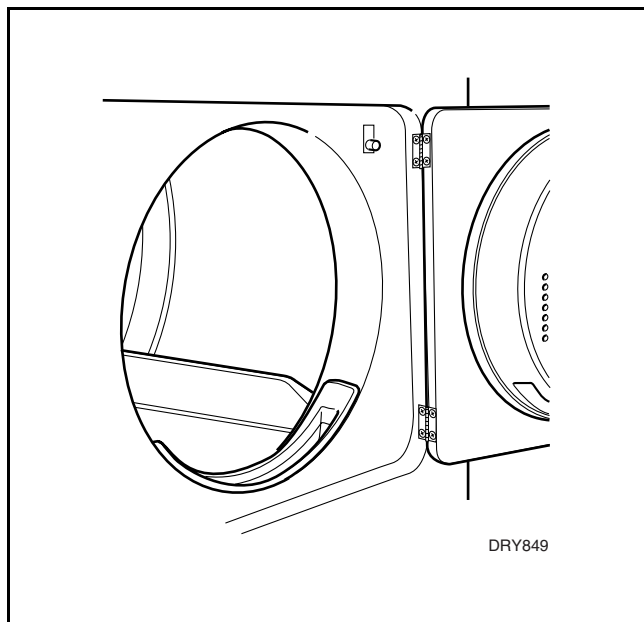

Figure 12
- a. Remove four screws holding hinges to door. Refer to *Figure 12*.